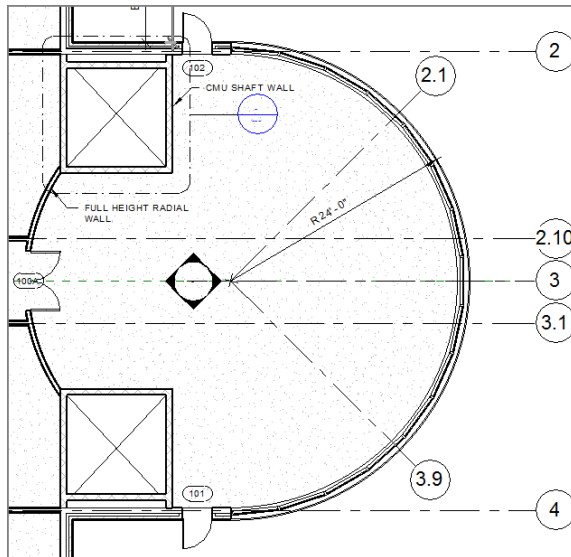

FIGURE 8.11: Adding the grids along the corridor walls
8. Repeat the process for the south corridor wall, adding an additional grid line numbered 3.1, as shown in Figure 8.11.